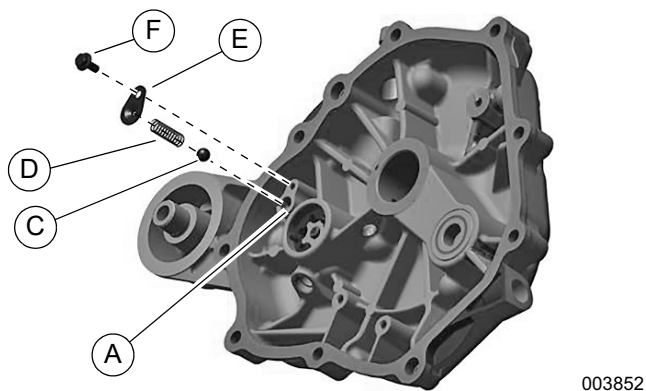

Figure 14-29. Assemble Pressure Relief Valve
1. See Figure 14-29. Verify pressure relief valve bore (A) is clean and free of burrs and debris. Assemble oil pressure relief valve by first inserting ball (C), then spring (D), then cover (E), then fastener (F). Tighten fastener to 44 in-lbs (5.0 Nm).